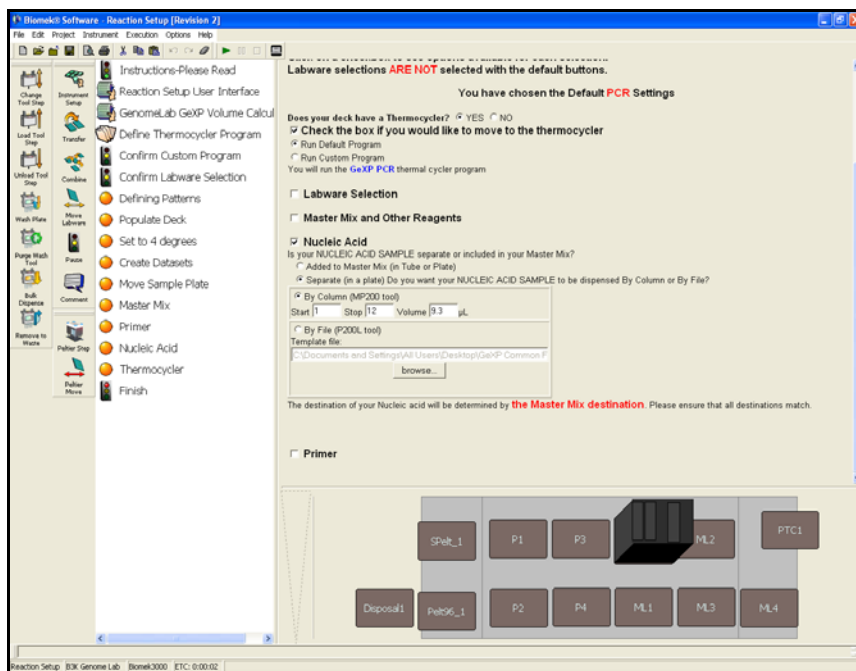

Figure 1-13. Reaction Setup User Interface step with Nucleic Acid options displayed
3. Choose **Nucleic Acid** to display the nucleic acid options (Figure 1-13).